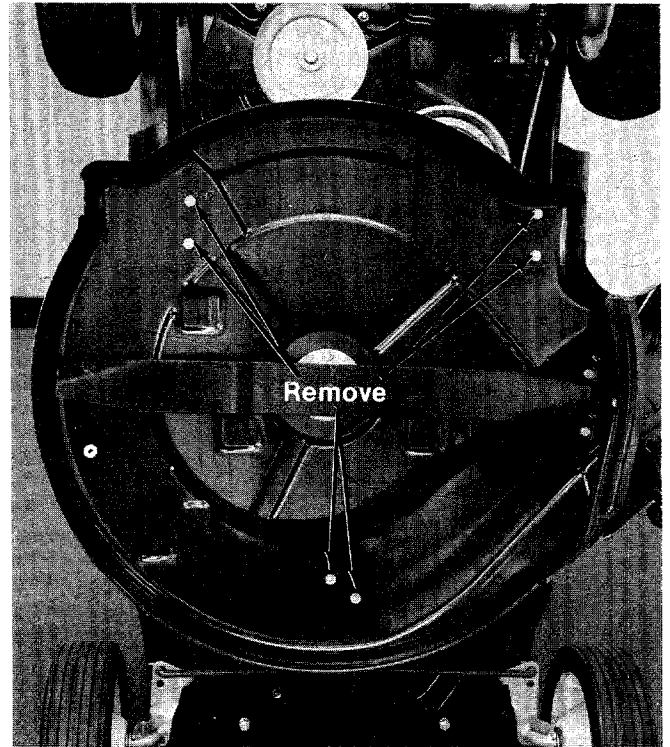

FIGURE 20. DECK REMOVAL
- Step 3. Remove six hex screws, nuts and lock washers holding the deck. See figure 20.